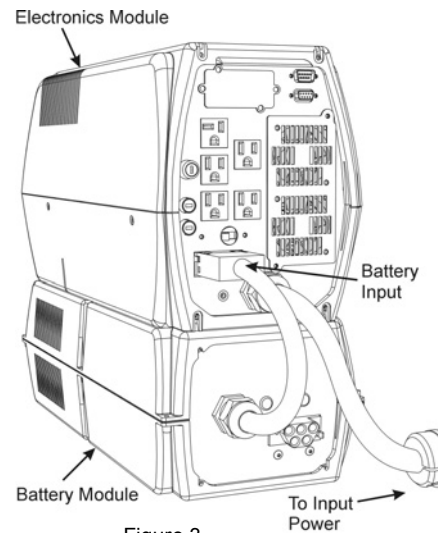

Figure 3
Step 5: Plug the battery cord coming from the battery pack into the blue battery plug located on the back of the electronics module (figure 3). **Attention:** If the battery cord is not plugged into the battery plug the UPS will not be able to provide backup power in the event of a loss of AC input power.
Step 3: Connect the input power cord (figure 3) to the AC power source. If no AC power source is available go to step 5.